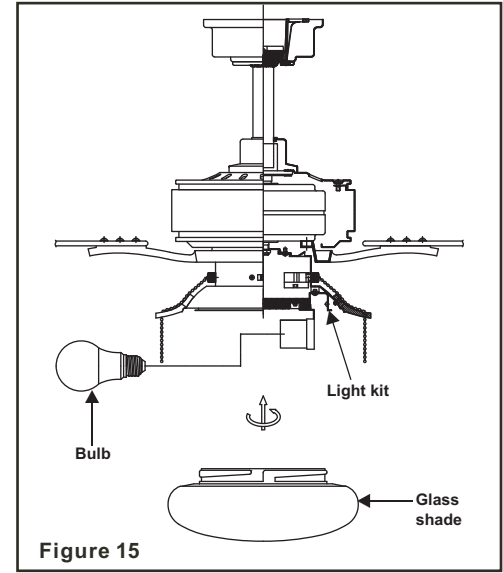

Figure 15
Step 3. Install the 10W LED bulb (included). (Fig. 15)
Step 4. Raise glass shade up against the light kit and secure it to fan by turning glass clockwise until snug. DO NOT OVERTIGHTEN. (Fig. 15)